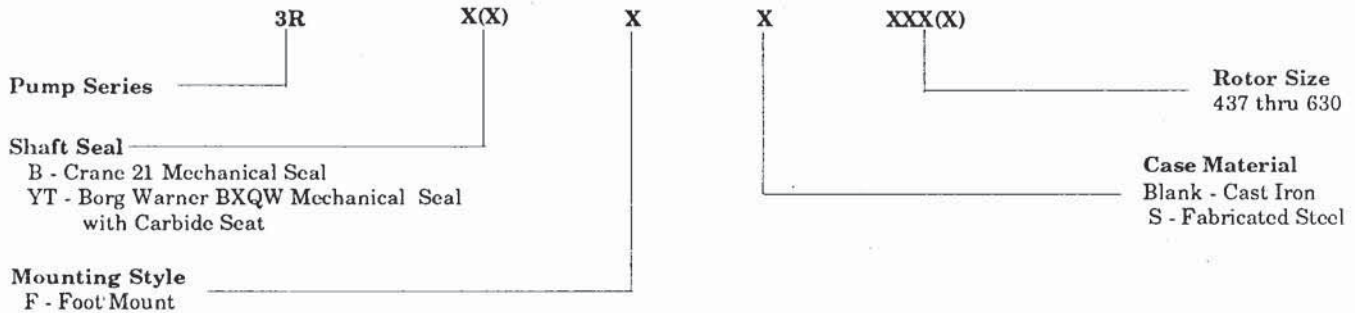
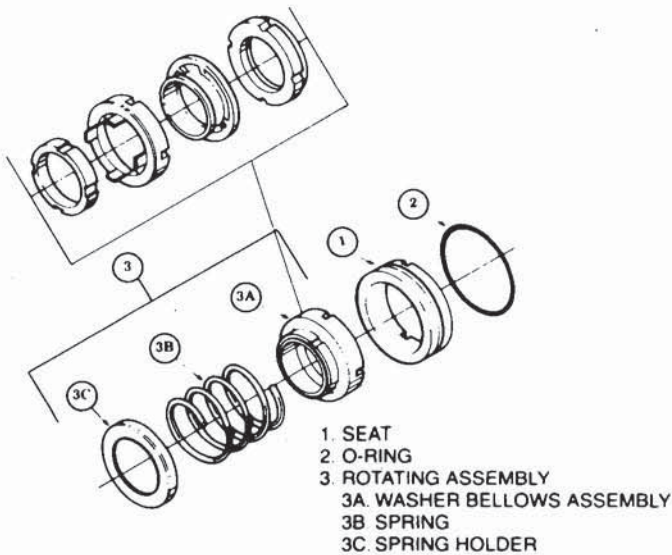
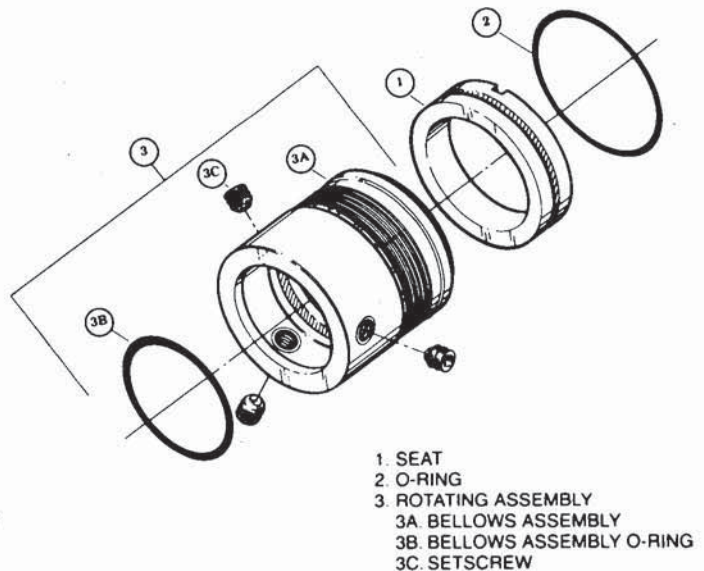

FIGURE 1. Definitions of Model Designators
FIGURE 2. Crane 21 Mechanical Seal
FIGURE 3. Borg-Warner BXQW Mechanical Seal
This instruction manual covers the Imo Pump Series 3R IMO pumps, rotor sizes 437, 462, 550 and 630. Specific models covered by this manual are identified in Table 1. The model of each particular pump is identified on the pump nameplate. Refer to Figure 1 for definitions of model designators. Refer to assembly drawing, Figure 4, and mechanical seal drawings, Figures 2 and 3, as you use this instruction manual.
- b. Remove inner retaining ring (028). Remove spacer sub-assembly (023) from power rotor (020) shaft. Removal of spacer sub-assembly (023) will also remove O-ring (026), lip seal (041) and mechanical seal stationary seat and O-ring (1 and 2, Figure 2 or 3).
- c. Remove O-ring (026) from groove of spacer (023). Remove mechanical seal seat and O-ring (1 and 2, Figure 2 or 3) from spacer (023). Remove O-ring (2, Figure 2 or 3) from seal seat (1, Figure 2 or 3).
5. Remove mechanical seal (034) rotating assembly from power rotor (020) shaft as follows:
Crane Type 21 (Figure 2). Slide rotating assembly (3) from power rotor.
Borg-Warner Type BXQW (Figure 3). Loosen setscrews (3C) and slide rotating assembly (3) from power rotor.
6. Install mechanical seal (034) rotating assembly as follows:
Crane Type 21 (Figure 2). Slide rotating assembly (3) on power rotor (020) shaft next to balance piston (021).
Borg Warner Type BXQW (Figure 3). Slide rotating assembly (3) on power rotor (020) shaft next to balance piston (021). Tighten setscrews (3C).
7. Assemble spacer (023) as follows:
- a. Install O-ring (2, Figure 2 or 3) on mechanical seal seat (1, Figure 2 or 3). Install assembled seal seat (1, Figure 2 or 3) in counterbore of spacer (023), ensuring that roll pin (025) engages bore in seal seat.
1. Follow procedures outlined in Steps 1 through 3 of Replacement of Internal Cartridge. Locate cartridge in a clean, suitable work area. Disassemble internal cartridge as outlined below. Refer to pump assembly drawing, Figure 4; Mechanical seal drawings, Figures 2 and 3; and List of Material, Table 3, during disassembly procedures.
2. Remove key (029) from keyway of power rotor (020) shaft.
3. Remove bolts (012), spacers (011) and thrust plate (010) from rotor housing (009).
4. Remove idlers (022) from idler bores at suction end of rotor housing (009).
5. Remove and disassemble power rotor (020) by following procedures outlined in Steps 2 through 5 of Servicing Ball Bearing and/or Mechanical Seal.
6. Remove assembled balance piston housing (013) from rotor housing (009) by removing bolts (015). Disassemble balance piston housing as follows:
- a. Remove O-ring (014) from groove of balance piston housing (013).
- b. Remove bolts (017) and washers (016) and remove bushing (018) from balance piston housing (013).
NOTE: Prior to assembly of pump, all parts should be cleaned and inspected for nicks or burrs. Replace all worn or damaged parts. It is recommended that gasket (008), O-rings (014 and 026), mechanical seal (034), bearing (027), and lip seals (040 and 041) be replaced when disturbed from their original installed position. Wipe each part with light lubricating oil prior to installation. Refer to assembly drawing, Figure 4; mechanical seal drawings, Figures 2 and 3; and List of Material, Table 3, during reassembly of pump.
1. Install bushing (018) in balance piston housing (013). Install washers (016) and bolts (017) in balance piston housing (013) to retain bushing (018).
2. Install O-ring (026) in groove of balance piston housing (013). Install assembled balance piston housing (013) on rotor housing (009) using bolts (015). Torque bolts (015) to 51 lbs. ft. (± 2 lbs. ft.).
3. Install idlers (022) in idler bores of rotor housing (009).
4. Install thrust plate (010) on rotor housing (009) using spacers (011) and bolts (012). Torque bolts (012) to 51 lbs. ft. (± 2 lbs. ft.).
5. Follow procedures outlined in Steps 6 thru 13 of Servicing Ball Bearing and/or Mechanical Seal to assemble and install power rotor (020).